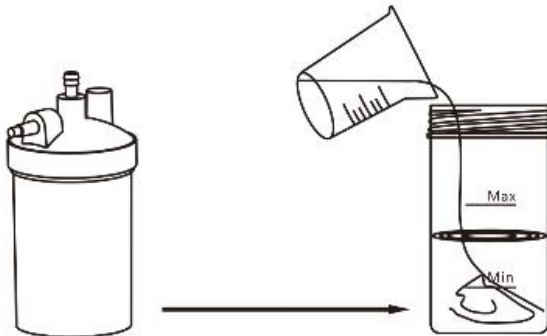

Figure 7
- c. Fill the humidifier bottle with distilled water. Do not exceed max. (Figure 7)